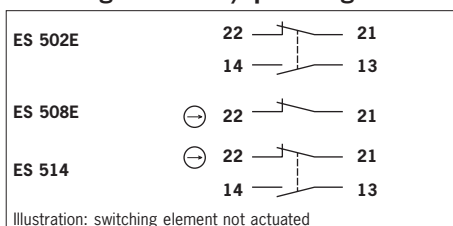

Fig. 1: Switching elements and pin assignment
- ▶ For pin assignment see Figure 1